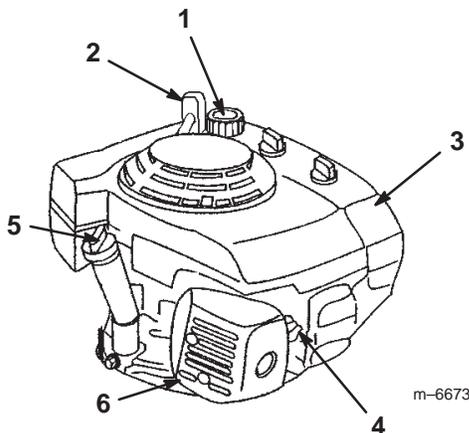

Figure 6
1. Clean around the fuel tank cap (Fig. 6).
1. Connect the wire to the spark plug (Fig. 6).